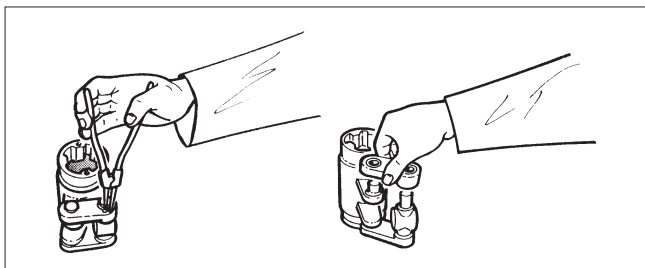

Fig. 16 Dismantling the linkage
- Remove lock rings (36) and support rings (37). See Fig. 16.
- Remove connection arms (4), ring (4A) and check the condition of the bearings (20, 21).
- Remove lever arm bearings (23), X-rings (17) and the grounding ring (3A).
- Install the lever bearings (23). The bearing strip (23) has a chamfer on one side, which is meant to be facing upwards towards the housing cover, so that the chamfered side is in contact with the X-ring (17).
- Install the X-rings (17). The X-rings must not be twisted at any point. Make sure they are placed evenly and uniformly around the whole lever arm surface. On the housing cover side the X-ring (17) will fit only if installed together with a chamfered bearing strip (23).
- Assemble the linkage and install in the housing. See Figure 16 for the correct position. Note that there are 2 pieces of grounding ring (4A) needed under the connection arm. All grounding rings (3A and 4A) are needed to meet the ATEX requirements.
- Apply sealant, e.g. Loctite 2400, 242, or 225, to the bearing unit screw (29) thread and tighten the screw as in Table 2.
- Install new pressure outlet valve (58) on to housing cover.
- Remove lever arm bearings (23) and X-rings (17) and the grounding ring (3A).
- Apply sealant, e.g. Loctite 2400, 242 or 225, to bearing unit screw (29) thread and tighten the screw as in Table 2.
- Install new cylinder base O-ring (19). Install the cylinder.